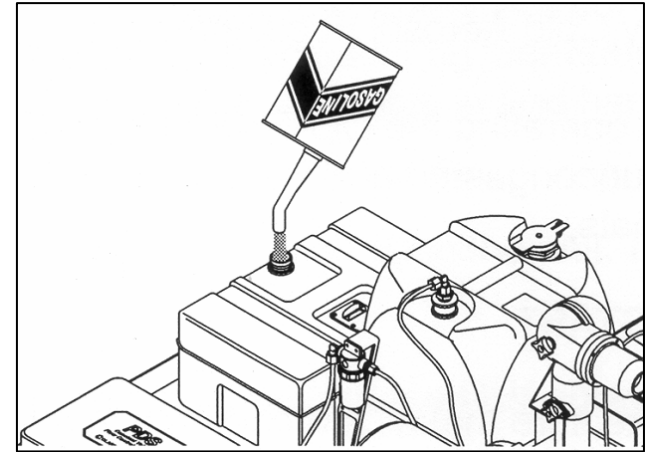

Fig. 57. Fuel level check & fill.
- 10. Check the fuel level in the red, nine gallon FUEL TANK, (Fig. 57). Add regular unleaded fuel as needed, making sure you cover the pick-up tube.